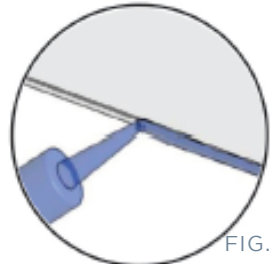

FIG.32
- Remove shelf and put a thin bead of adhesive down both edges of shelf (FIG 32).